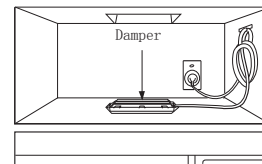

Figure 32
5. Roof venting installation: See Figure 32. Install ductwork through the vent opening in the upper cabinet. Complete the venting system through the roof according to the method needed. See Prepare The Venting System STEP 2. Use caulking gun to seal the exterior roof opening around the exhaust cap. See Figure 7 on page 8.